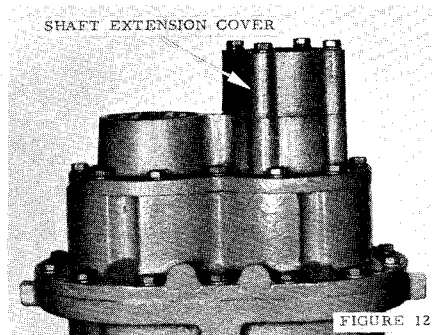

FIGURE 12
12. IF WATER-COOLED MODEL – Install the shaft extension cover and gasket, Figure 12.